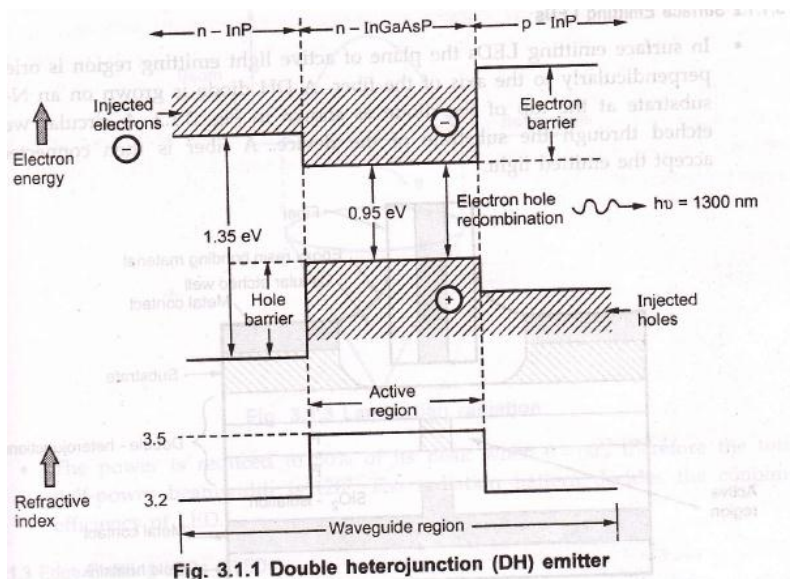

Fig. 3.1.1 Double heterojunction (DH) emitter
In order to achieve efficient confinement of emitted radiation double **heterojunctions** are used in LED structure. A heterojunction is a junction formed by dissimilar semiconductors. Double heterojunction (DH) is formed by two different semiconductors on each side of active region. Fig. 3.1.1 shows double heterojunction (DH) light emitter.